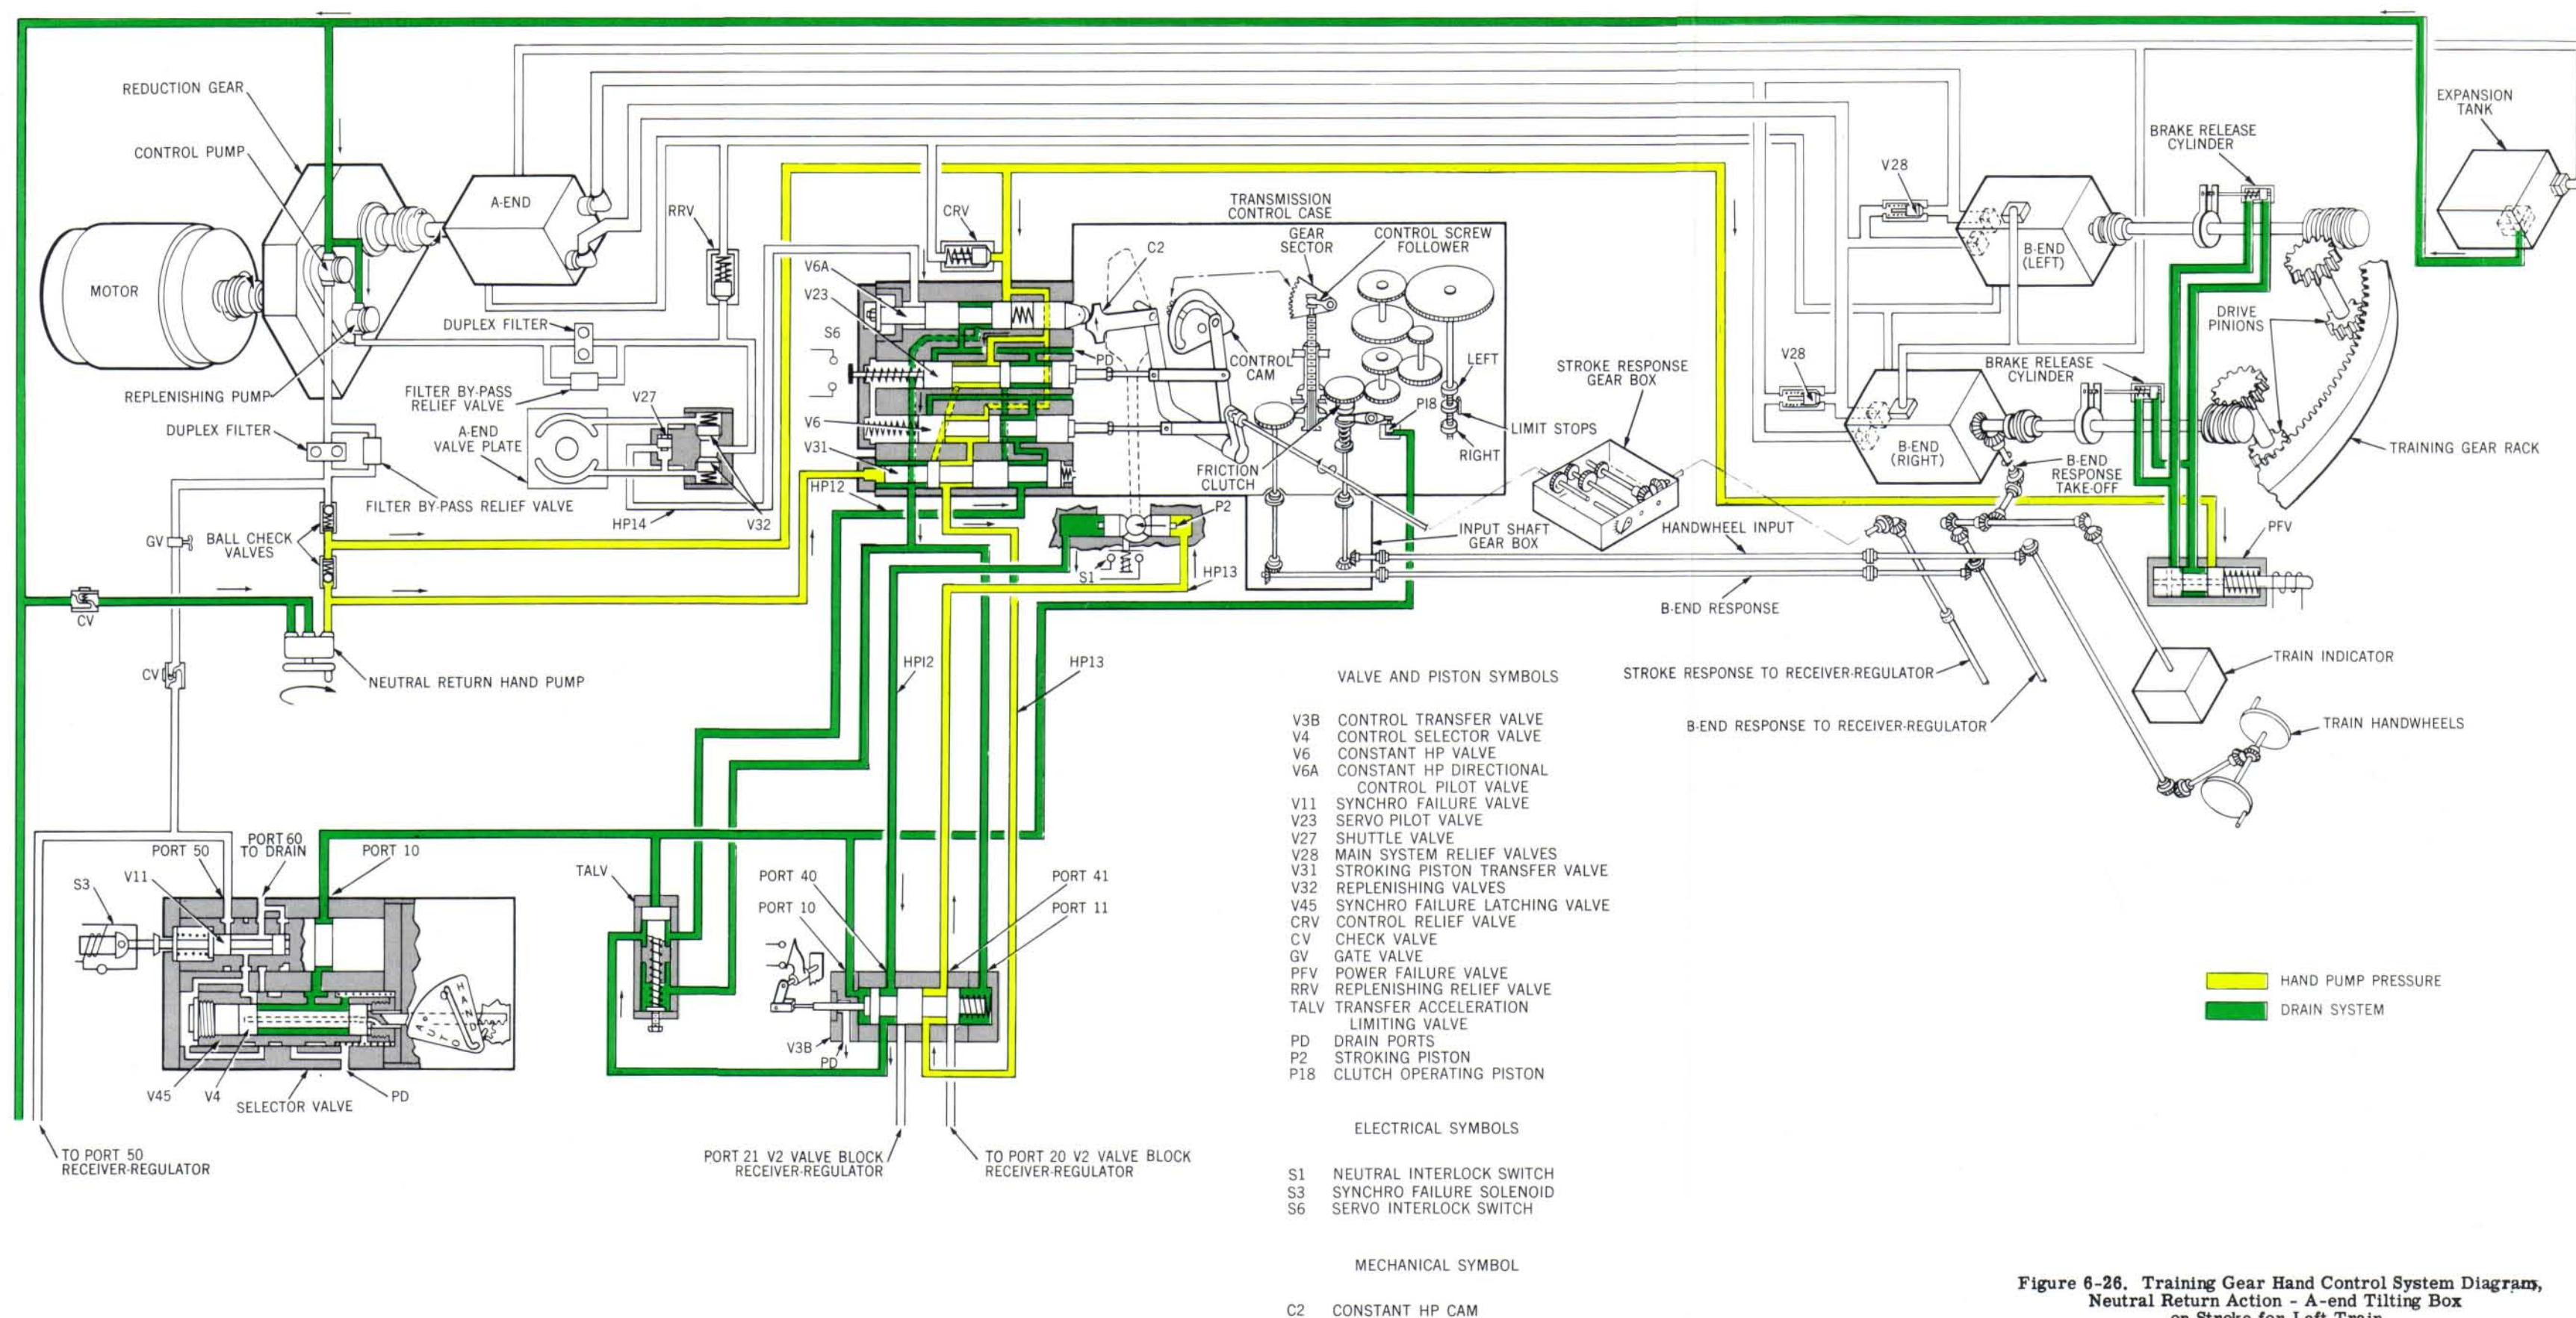

Figure 6-26. Training Gear Hand Control System Diagram, Neutral Return Action - A-end Tilting Box on Stroke for Left Train
Neutral return. When the training gear power drive has been stopped while in motion, either by power failure or by use of the STOP push button, the power drive cannot be started again until the A-end tilting box is manually returned to neutral (fig. 6-26). To do this:
3. The positions of V31 and V6 port the hand pump pressure through V3B or through TALV and V3B to one end or the other of the stroking piston to drive it back to neutral from its stroke position. Figure 6-26 shows hydraulic circuit conditions when returning the A-end tilting box to neutral from a left train on-stroke position.